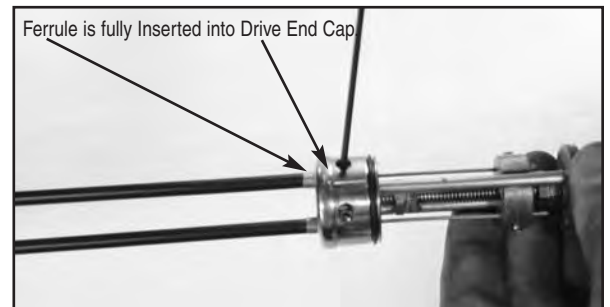

Figure 13
3. From bottom of Actuator Wire Guide Assembly gently insert wire end of cable until Ferrule of Sheath is fully inserted into Drive End Cap and Wire is guided through Position Nut. **Tighten Set Screw (b).** (**3/32" Hex Key Wrench**) **Figure 13 and 14**